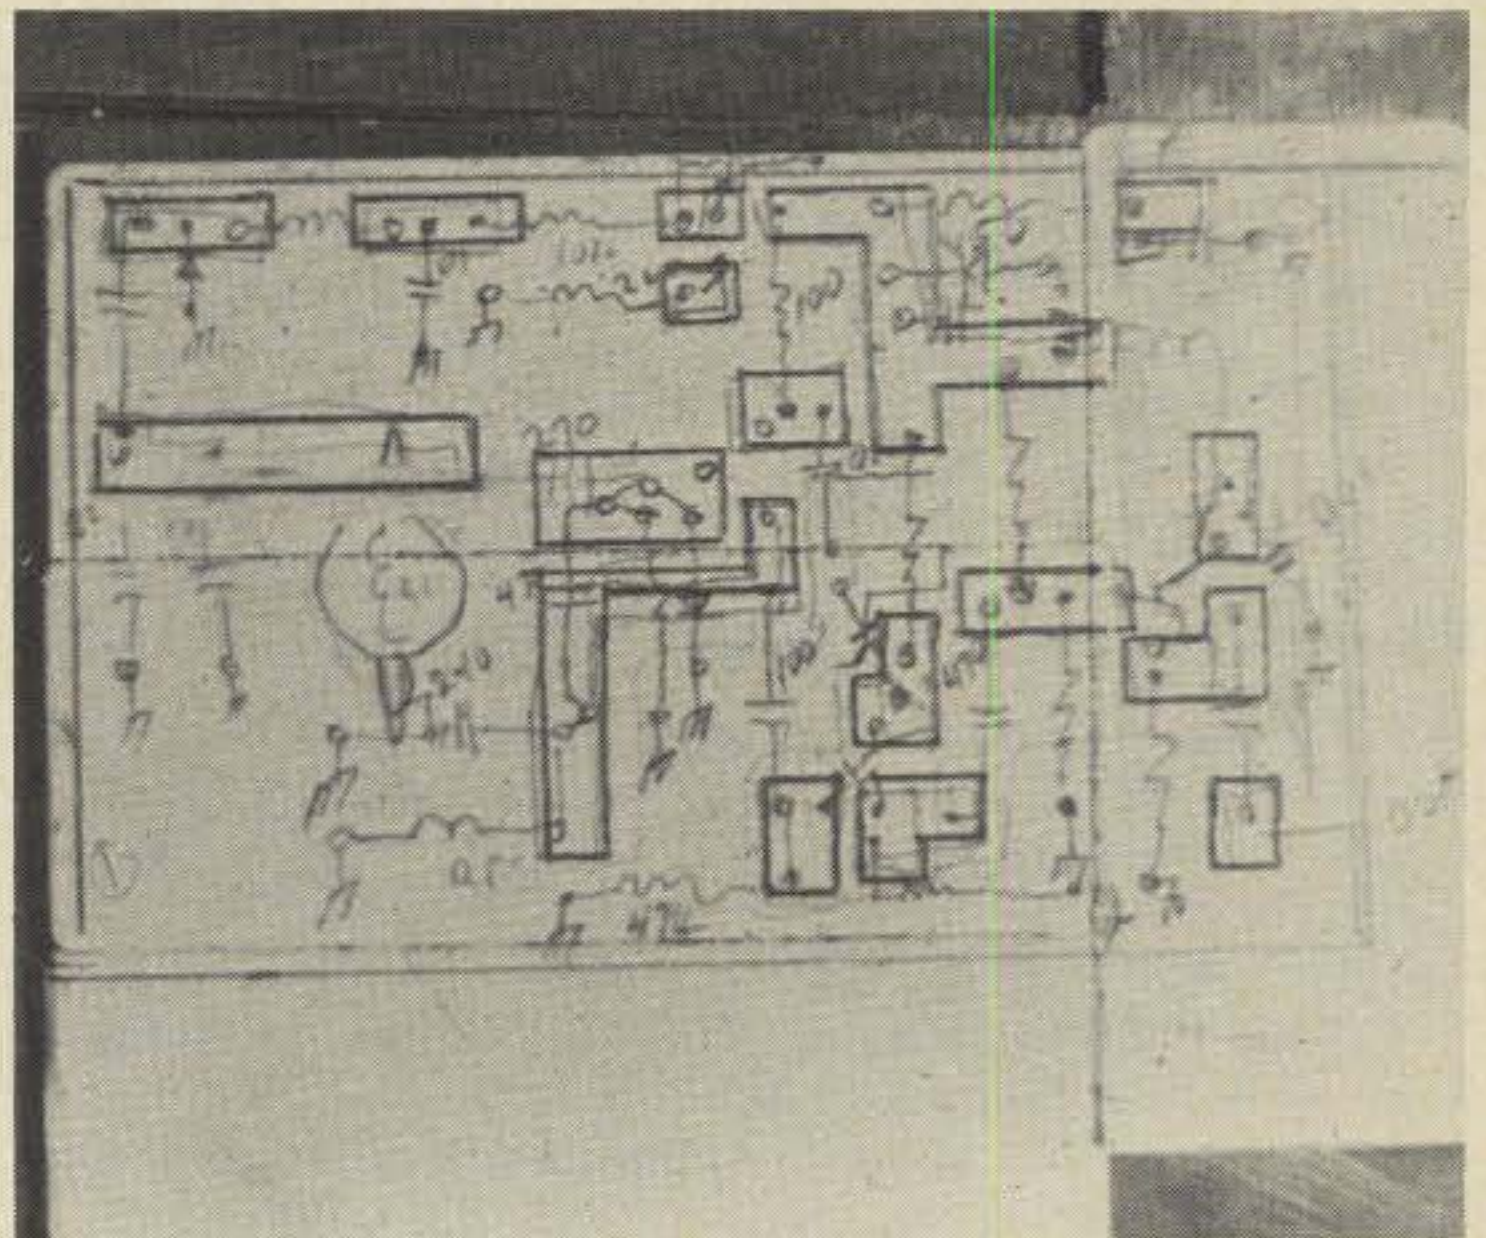

Fig. 4—A straight-edge and sharp tipped pencil are used to outline the pads in final form.
3. Outline the pads. Once a satisfactory layout is produced, a straight-edge and sharp tipped pencil are used to first accurately outline the pads, as seen in fig. 4. Next, outline the ground foil, leaving about 1/16" clearance between it and the pads, as shown in fig. 5.